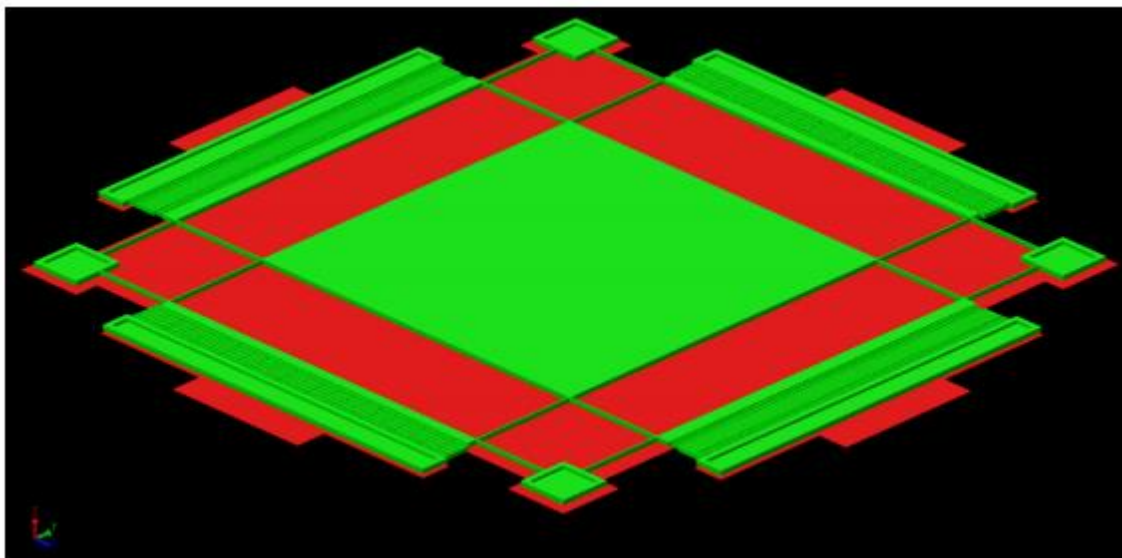

Fig. PS5.1-1 – Perspective view of the accelerometer
1. Figs. PS5.1-1 to PS5.1-6 show a dual-axis x-y accelerometer manufactured via the following 3-mask surface micromachining process. Assume all materials are stress-free at room temperature and have the material properties listed in Table PS5.1-1